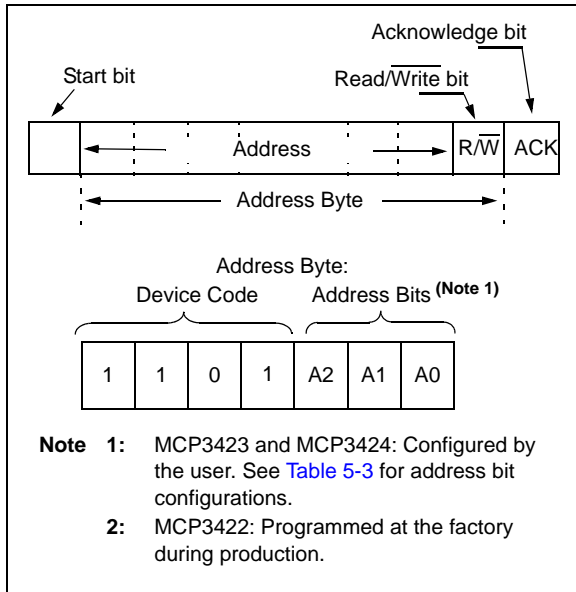
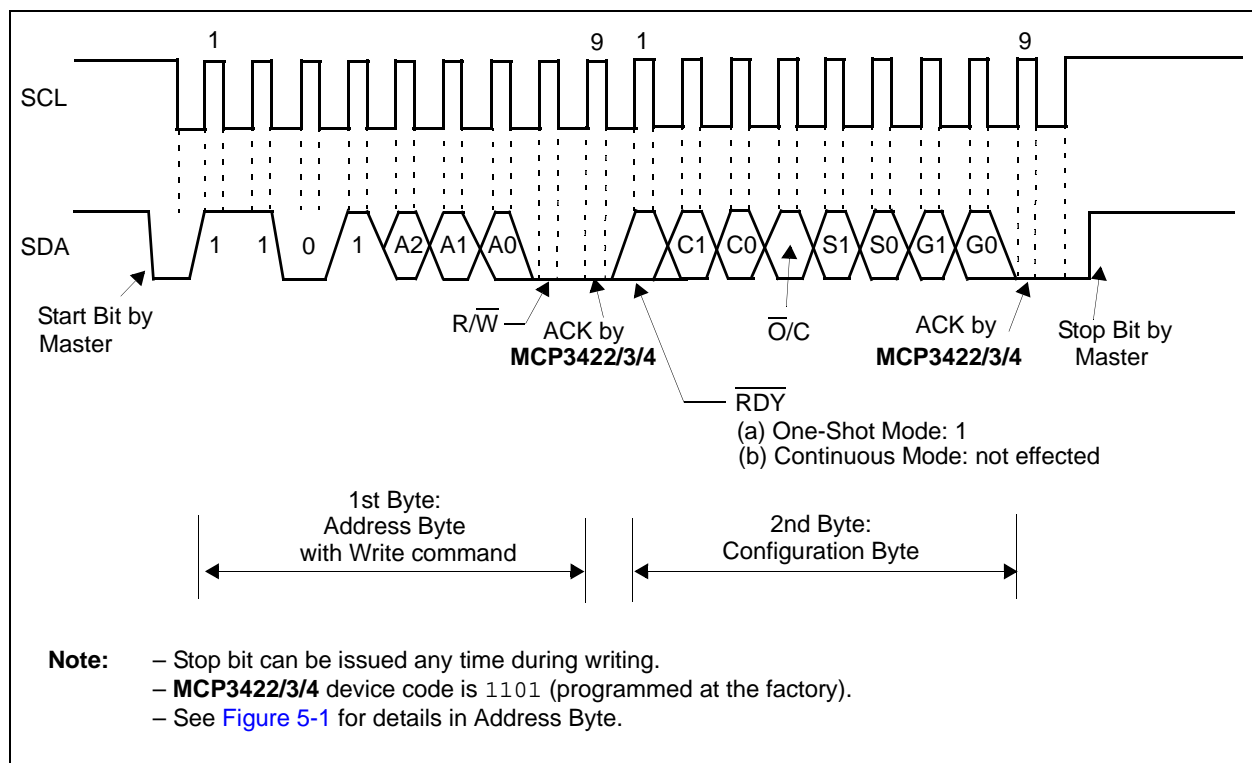

FIGURE 5-1: Address Byte.
FIGURE 5-3: Timing Diagram For Writing To The MCP3422/3/4.
The first byte after the START bit is always the address byte of the device, which includes the device code (4 bits), address bits (3 bits), and R/W bit. The device code for the devices is 1101, which is programmed at the factory. The I²C address bits (A2, A1, A0 bits) for the MCP3423 and MCP3424 are user configurable and determined by the logic status of the two external address selection pins on the user's application board (Adr0 and Adr1 pins). The Master must know the Adr0 and Adr1 pin conditions before sending read or write command. Figure 5-1 shows the details of the address byte.
Figure 5-1 shows the address byte. Figure 5-3 through Figure 5-5 show how to write the configuration register bits and read the conversion results.
- See Figure 5-1 for details in Address Byte.